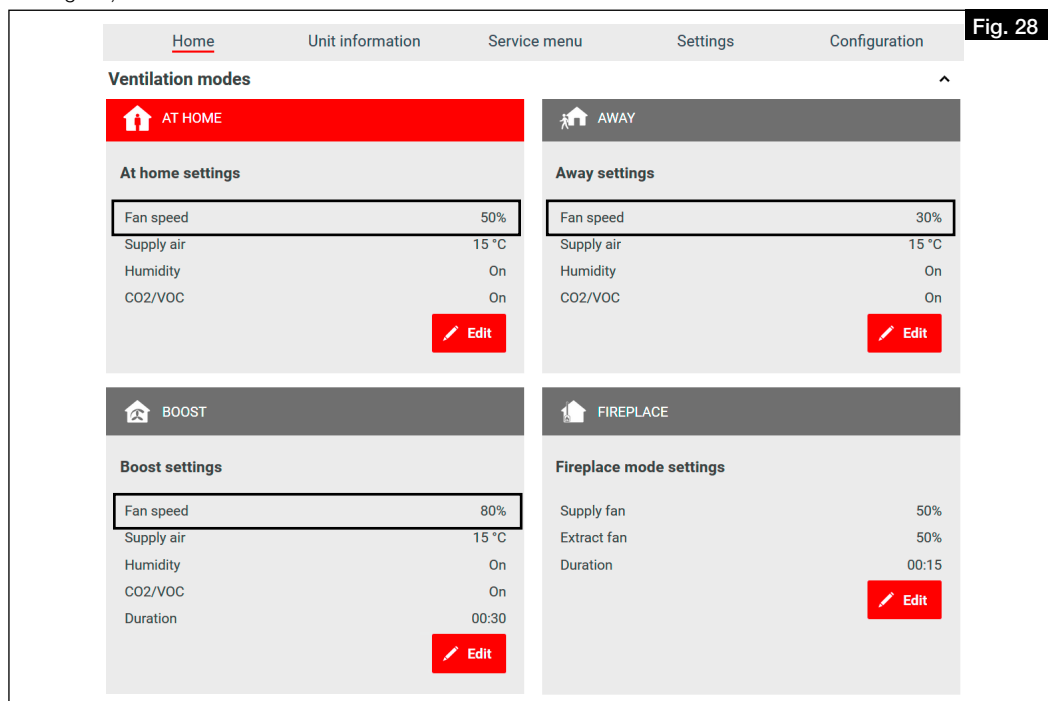
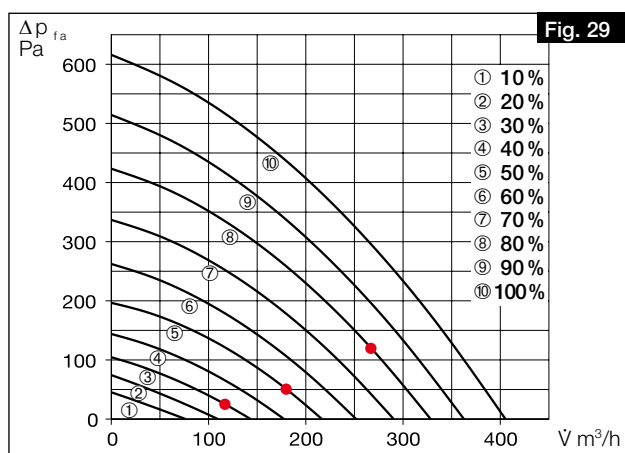

Fig. 28
Fig. 29
- ① Ensure approx. 20 cm straight settling section up to the measuring connectors!
2. Enter the following values for the fan powers in the respective ventilation profile via the easyControls software or the control element KWL-BE Touch: **Away:** 30 % / **At home:** 50 % / **Boost:** 80 % (cf. Fig. 28).
4. Enter the determined differential pressures from the supply and intake air measurement in the unit characteristic curve for supply air (see Fig. 23 and Fig. 25) according to the fan outputs saved in the ventilation profile (cf. Fig. 28 and Fig. 29).
5. Enter the determined differential pressures from the extract and exhaust air measurement in the unit characteristic curve for extract air (see Fig. 24 and Fig. 26) according to the fan outputs saved in the ventilation profile (cf. Fig. 28 and Fig. 29).